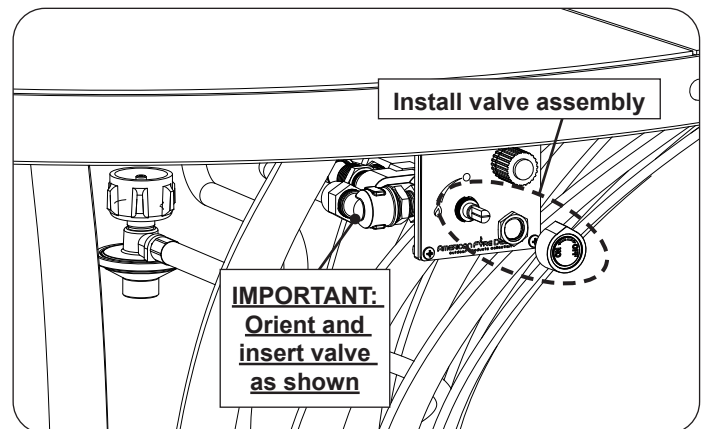

Fig. 37-3 Install valve assembly
7. Insert the valve assembly through the plate (in the base). Replace the nut onto the valve stem, and tighten. Reinstall the control knob. See Fig. 37-3.
**Important:** Handle with care to prevent damage to the thermocouple and gas connections. Ensure the valve is oriented and inserted in the manner shown. See Fig. 37-3.